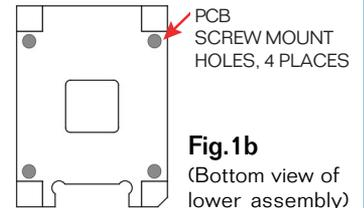

Fig.1b
After reflow: fasten socket through opposite side of PCB (use .067" dia. clearance holes) with #0-80 screws and washers provided, into tapped holes as shown. Tighten to 1.20 lb-in with a .050" (CF) hex drive; do not over tighten. [See Fig. 1b]